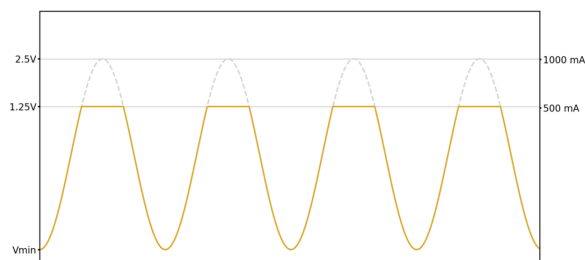

Figure 5.35: Cropped LED excitation signal
- **Custom** - this setting allows users to manually adjust the V_{max} and V_{min} of the LED, regardless of LED's maximum current. Care should be taken to remain below the maximum voltage, or the excitation signal will be cropped at the true maximum value (see Fig. 5.35).